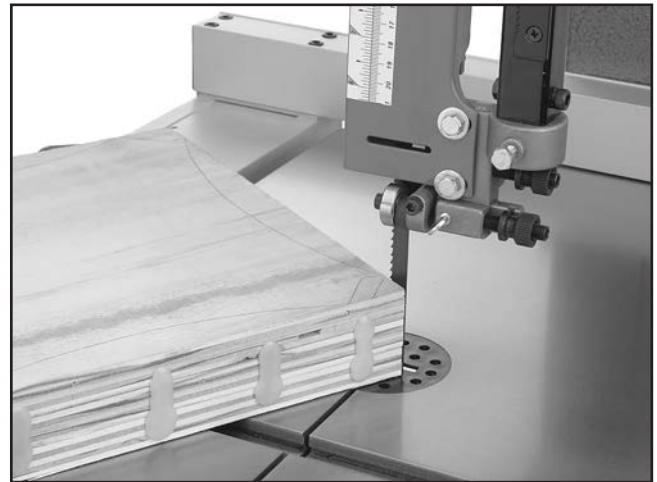

Figure 42. Cutting multiple pieces at once.
5. Cut the stack of pieces as though you were cutting a single piece. Follow your layout line with the blade kerf on the waste side of your line as shown in **Figure 42**.